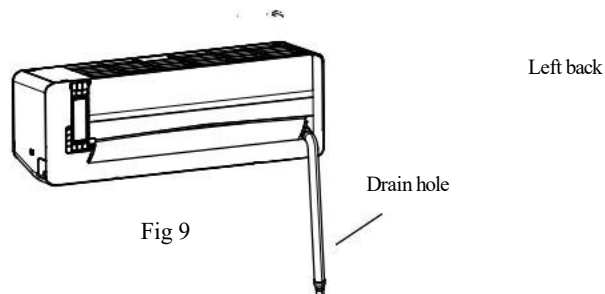

Fig 9
2. Connecting left back tube (similar to left lower tube). (optional, Refer to Fig9)
Right chart is available for the position of drain hose, refer to Fig 9.